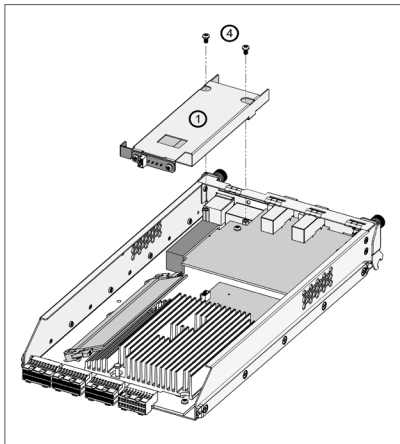

Figure B-6, Sliding the Garage into the Controller Caddy and Securing it
3. Use the two round-head screws and a flat-head screw (reference NO.4 & NO.5 in Figure B-3) that are provided to secure the garage to the controller caddy, as shown in Figure B-6.